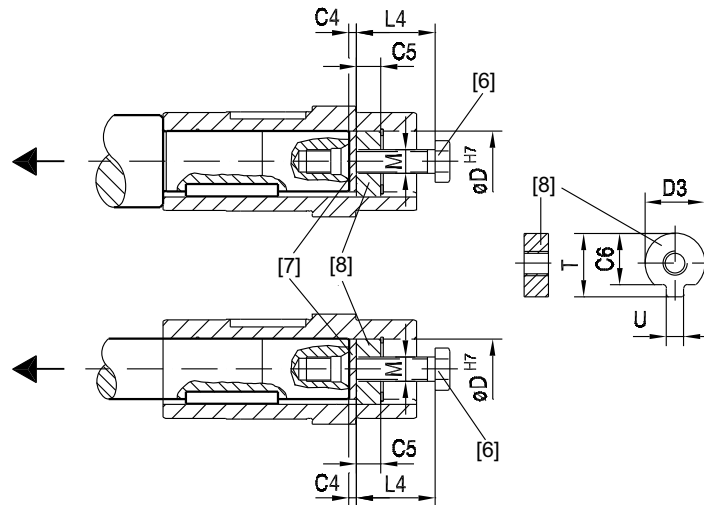

Figure 5: Removal
3. According to Figure 5, place the forcing washer [7] and the locked nut [8] between the customer shaft [4] and circlip [3].